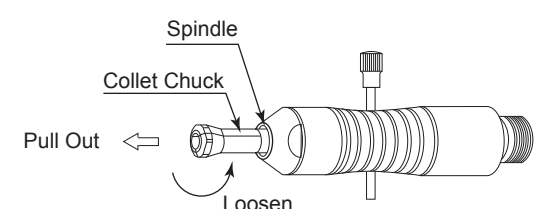

Fig. 5
- Remove the tool as detailed in Section 5. "CHANGING THE CUTTING TOOL" procedure and remove the collet chuck (Fig. 5).